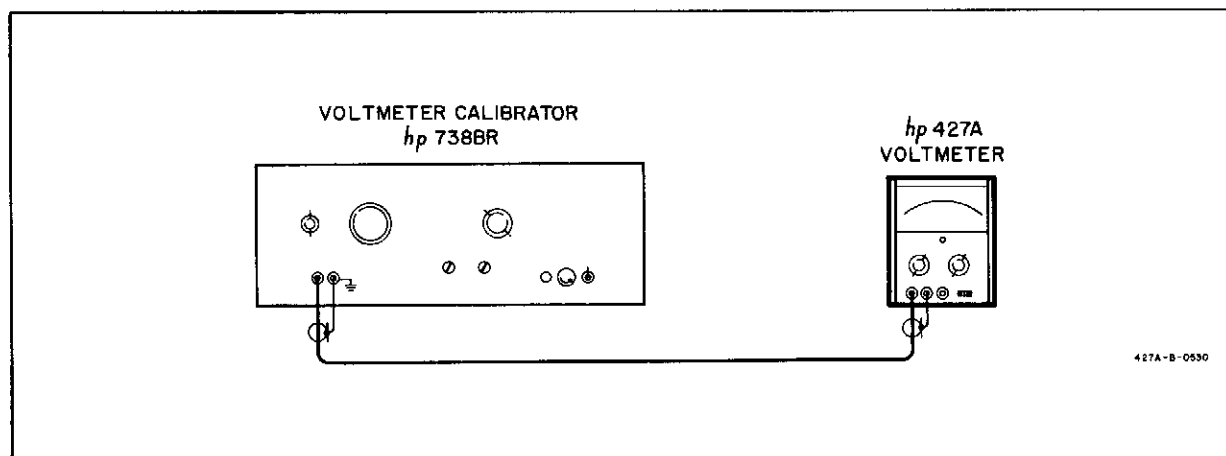

Figure 5-3. DC Accuracy and Linearity Check
5-17. The DC Accuracy Check requires a dc voltage standard that is accurate to within  $\pm 0.2\%$  of its indicated output from 0.1 volt to 300 V. The -hp- Model 738BR Voltmeter Calibrator is accurate to within  $\pm 0.1\%$  of the indicated output. Figure 5-3 shows the test setup for the DC Accuracy Check.
- c. Connect the voltmeter calibrator and the Model 427A as shown in Figure 5-3.
full scale inputs on the 0.1, 0.3, and 1 volt ranges respectively. The 3 volt through 1000 volt ranges are calibrated by A2R5 and require no special calibration. Use the test setup in Figure 5-3.